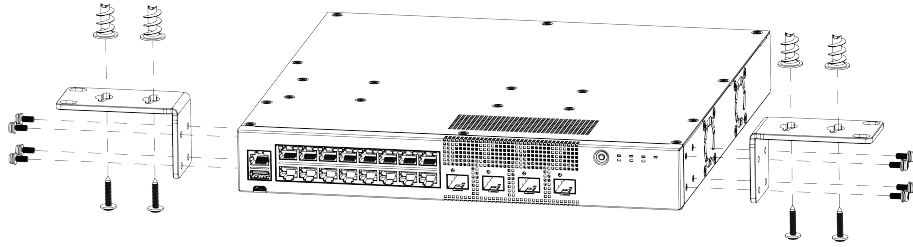
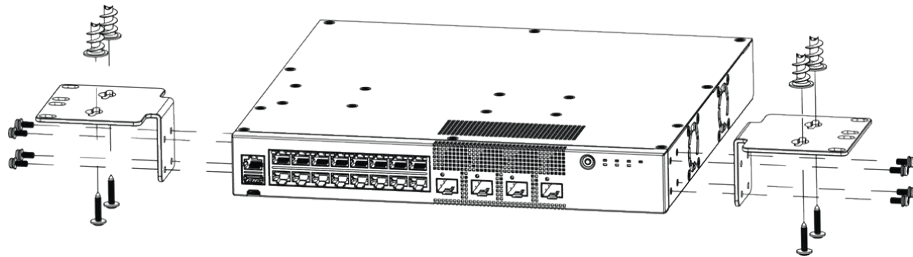

Figure 55: Under the Table Mount: Attaching 1U mounting ears to 5320-16P models
Figure 56: Under the Table Mount: Attaching larger mounting ears to 5320-16P models
4. Using rack mount screws, attach a mounting ear to the left side of the switch, at the front end. Figure 55 and Figure 56 on page 74 show the attachment of the screws.